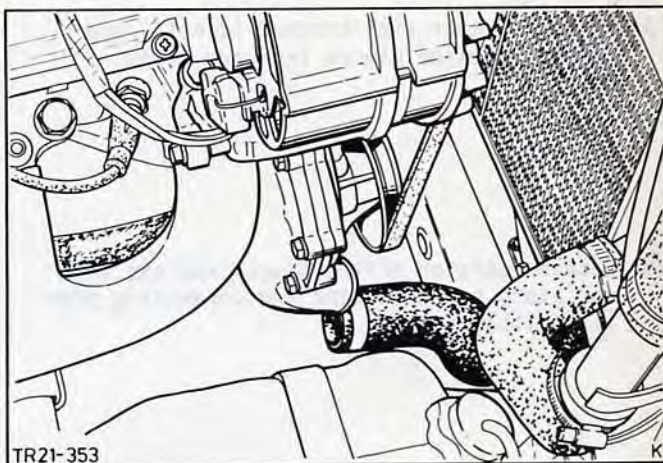

Fig.11. Bottom radiator hose disconnected.
4. Drain coolant into a collecting tray. Do this by detaching the bottom radiator hose from the water pump, Fig.11, and the top hose from the thermostat housing.